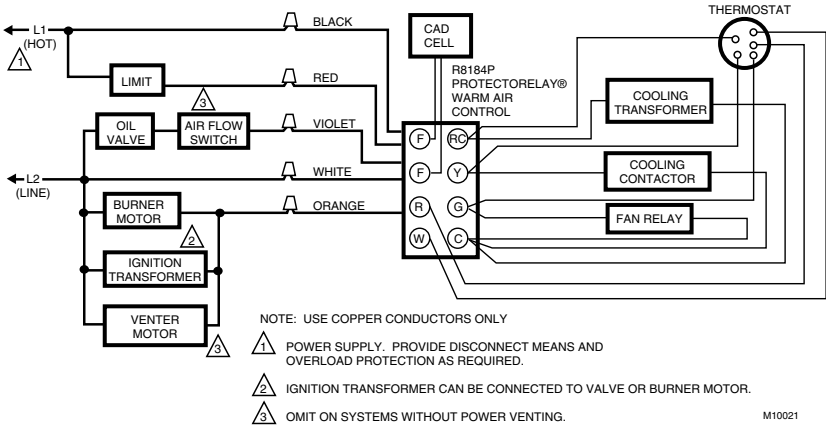

Fig. 9. Typical warm air hookup for R8184P.
- R8184P warm air hookup. Connect the card cell leads to the F-F terminals and the thermostat leads to the R-W terminals. See Fig. 9.